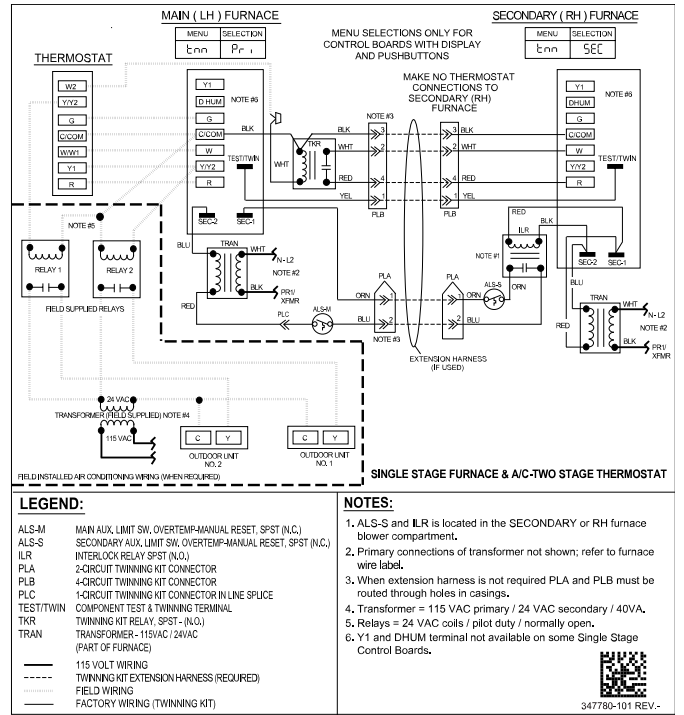

Fig. 21 – Single-Stage A/C Operation, Single-Stage Furnaces with Two-Stage Thermostat
- b. For staged operation of single-stage furnaces with a two-stage thermostat, remove the fork terminal from the terminal on the TKR and discard. The thermostat W2 lead is spliced into this wire. Refer to Fig. 21 and Thermostat Connections section for details.
See Fig. 21.
See Fig. 21 and Table 4